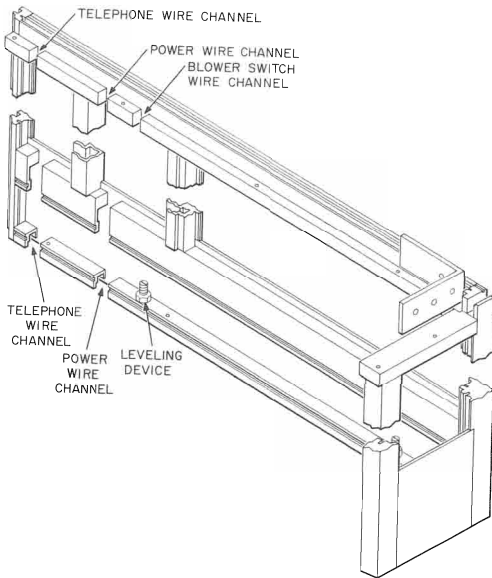

Fig. 11—View of Right Wall Frame Showing Wire Channels
- (c) Drop a weighted fish line from the ceiling area to pull telephone and electric wires separately up through their proper channels (in the right wall frame) to the ceiling area (Fig. 11).